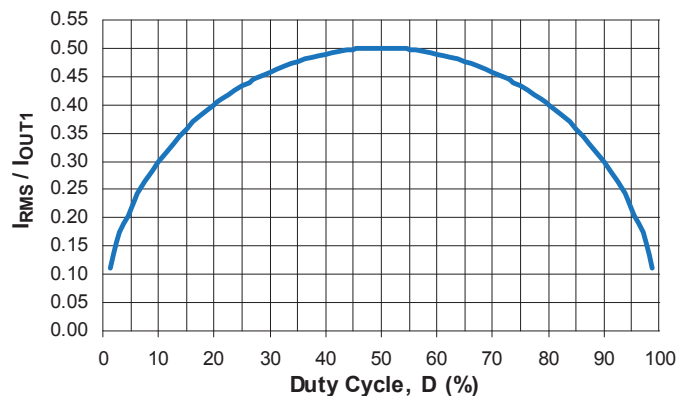

Figure 9. Normalized input capacitor ripple versus duty cycle
Figure 9 shows the normalized input capacitor rms current versus duty cycle. To use this graph, simply find the operational duty cycle (D) on the x-axis and determine the input/output current multiplier on the y-axis. For example, at a 20% duty cycle, the input/output current multiplier is 0.40. Therefore, if the regulator is delivering 2.0 A of steady-state load current, the input capacitor(s) must support 0.40×2.0 A or 0.8 Arms.